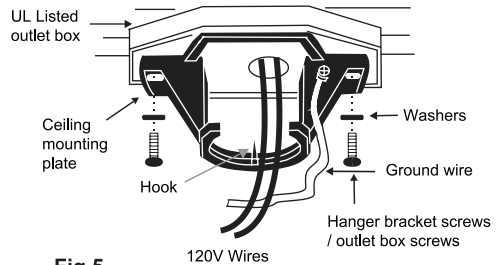

Fig.5
Secure the hanger bracket to the ceiling outlet box using screws and washers included with outlet box. (Fig.5)
2. Pass the 120-volt supply wires through the center hole in the ceiling hanger bracket as shown in Fig.5.